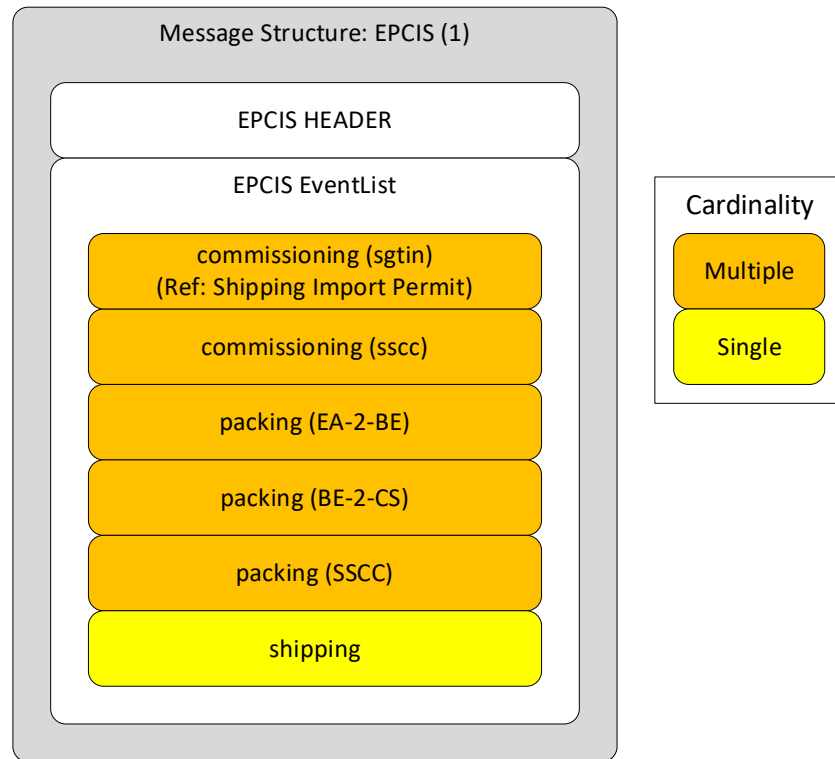

Figure 6 Local Manufacture EPCIS Message Structure
The order of the aggregation events must follow the top to bottom sequence shown in Figure 6.
6. All events in EPCIS message must be sorted in chronological order and this chronological order must follow the top to bottom sequence of the events in the event list shown in Figure 6. The earliest event time must be the *commissioning* events.
- Figure 6, the EPCIS message sent by the Domestic Manufacturer (or relevant technical representative), for goods manufactured within the UAE for the domestic UAE market.